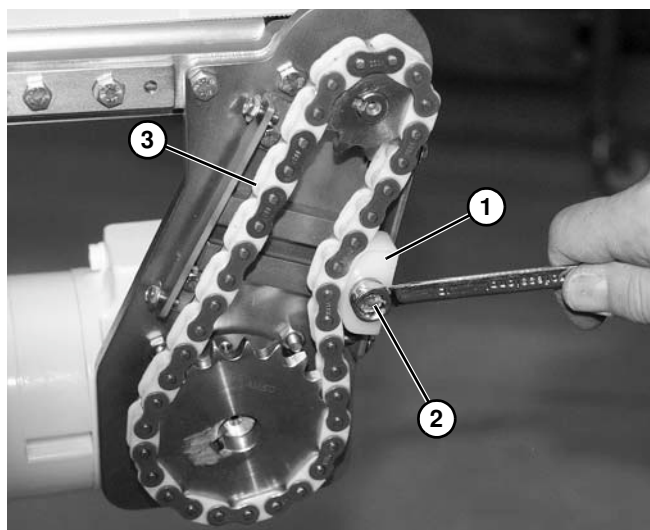

Figure 72
*Do not overtension chain (Figure 72, item 3).
- b. Slide chain tensioner (Figure 72, item 1) to take up chain slack. Tighten chain tensioner screw (Figure 72, item 2).